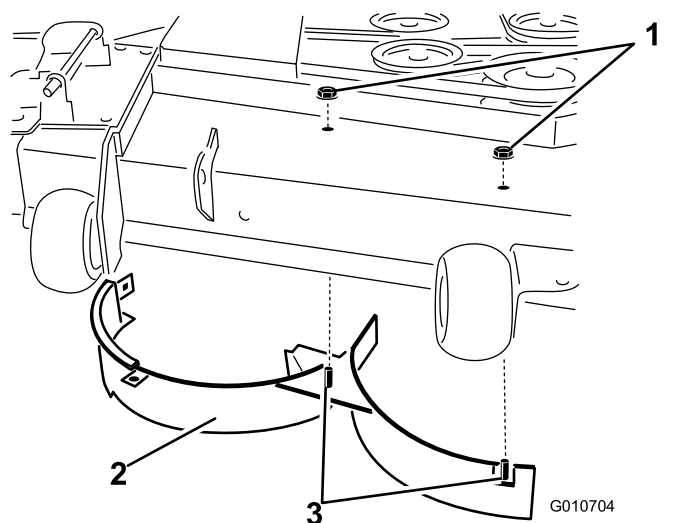

Figure 33
- Remove the 2 locknuts (5/16 inch) to securing the welded posts of the right baffle to the top of the mower deck at the center and right of center positions (Figure 33).